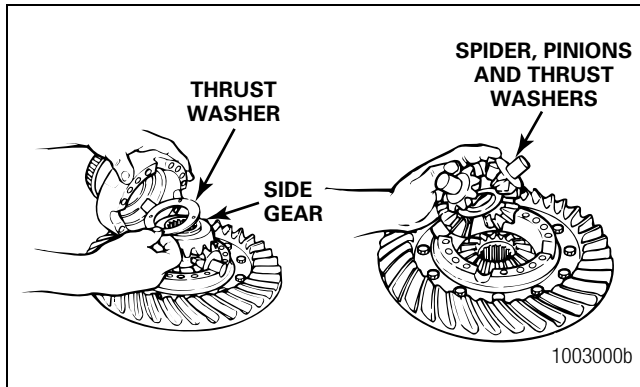

Figure 3.18
- Remove the differential spider or cross, four pinion gears, two side gears and six thrust washers from inside the case halves. Figure 3.18.